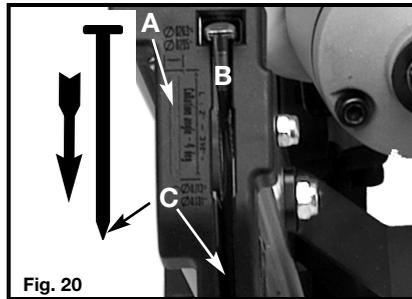

Fig. 20
3. Observe fastener icon (A) Fig. 20. Insert fasteners (B) Fig. 20 with points down (C) Fig. 20. Slide fasteners forward to the front of the magazine. The magazine will hold two full strips of fasteners.